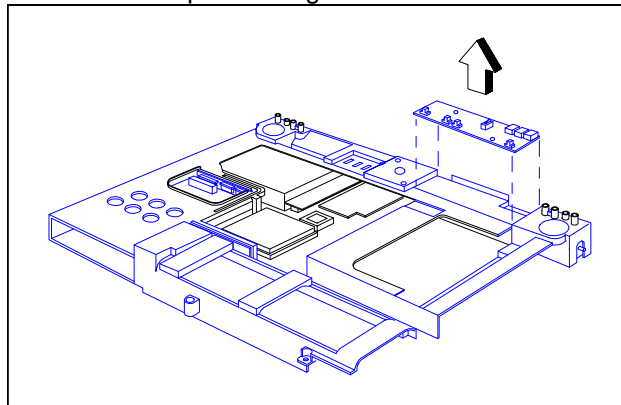

Figure 6-16 Removing/Replacing the FIR/Audio Board
5. Pull up and remove the FIR/Audio Board (Figure 6-16).